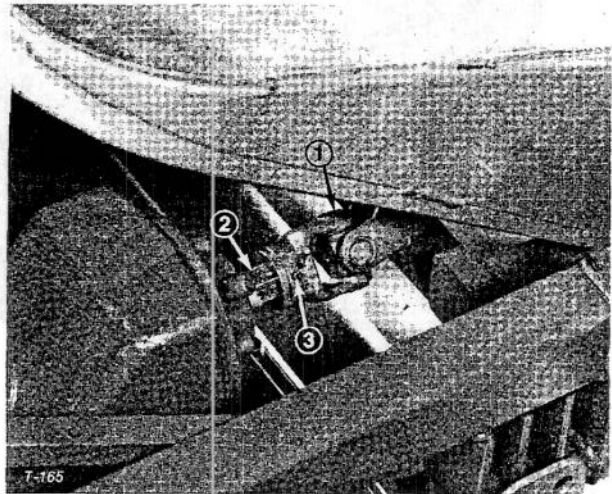

Figure 11
3. Lower frame, align PTO shaft hole with gearcase input shaft hole and install roll pin (Fig. 11).